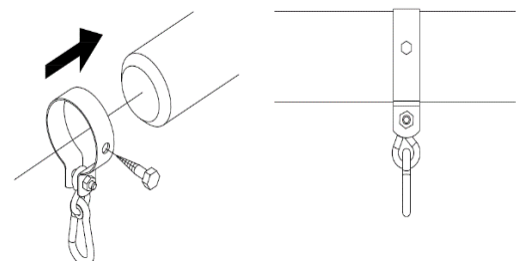

figure 3
19. Correct installation of swing clamp onto a wooden swing beam (figure 3). The 8x40 Zn wood screw that is necessary for additional attachment of the product is not included to the clamp set.